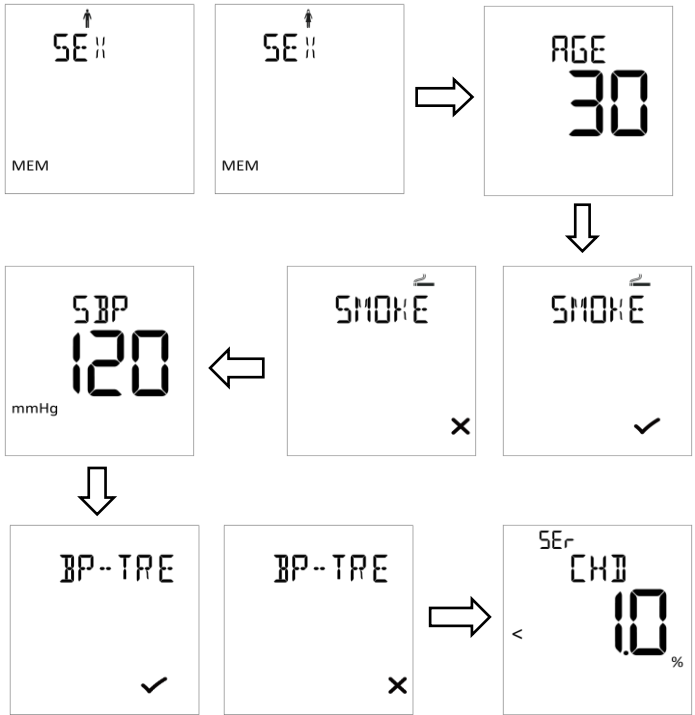

Fig 5.51
- FRA method: sex (Woman or Man), age, smoking status (✘ or ✔), systolic blood pressure and whether to treat hypertension (✘ or ✔) should be confirmed, after sequential selection, the assessment of CHD result is displayed (Ref Fig 5.51).